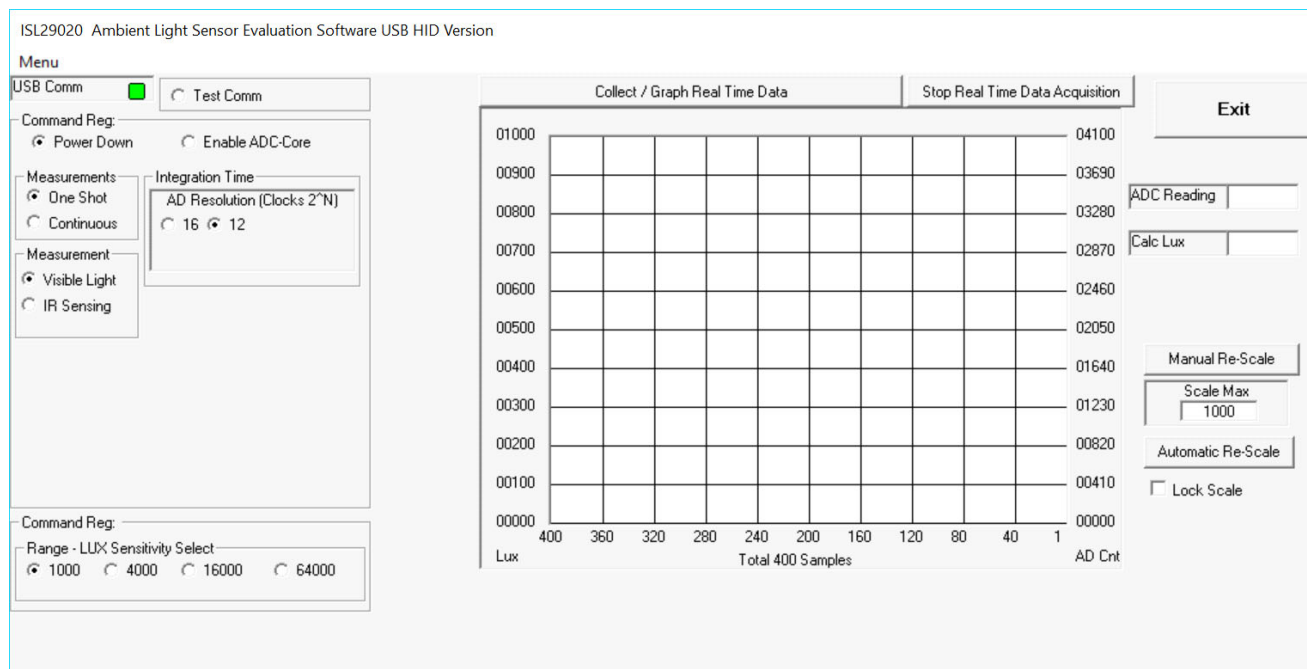
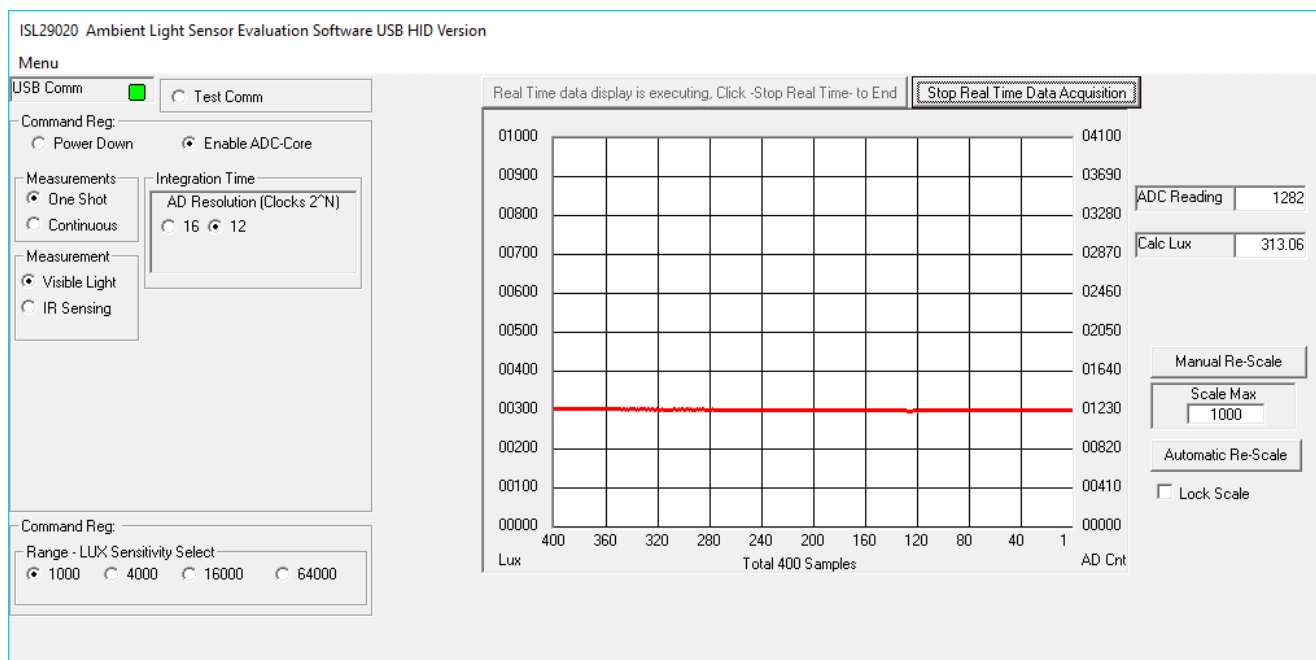
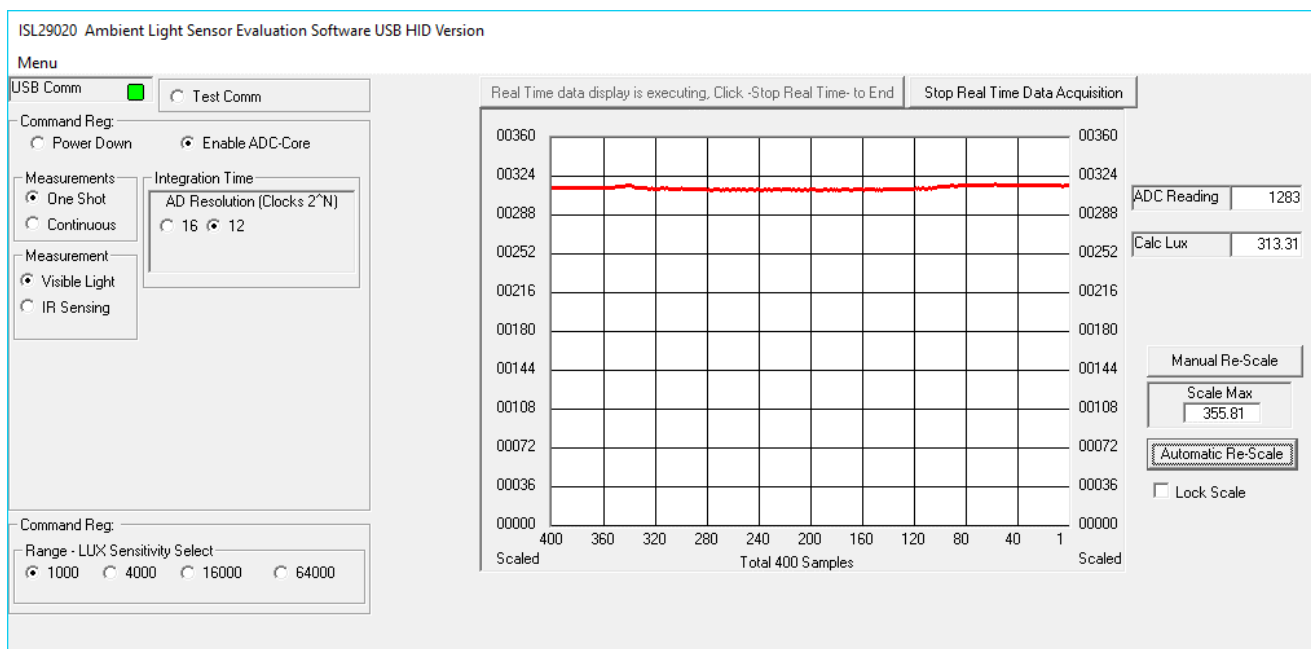

Figure 12. Software GUI
Figure 13. GUI Showing Data Waveform
Figure 14. Rescaled Waveform
- **Scale Max** - This is the maximum value that can be measured based on the resolution chosen (Integration Time). Maximum count increases with more integration time, see Figure 12.
The GUI page in Figure 12 appears after the .exe program executes. Click on the **Collect / Graph Real Time Data** command to see the GUI shown in Figure 13.
An ADC reading is displayed, 1282 in the case above, and a red data trace starts to march across the grid from right to left indicating the calculated light intensity in lux. The image in Figure 13 was recorded in a room illuminated with florescent tubes at a typical office space intensity. Click on **Automatic Re-Scale** to rescale the graph and produce the GUI shown in Figure 14.